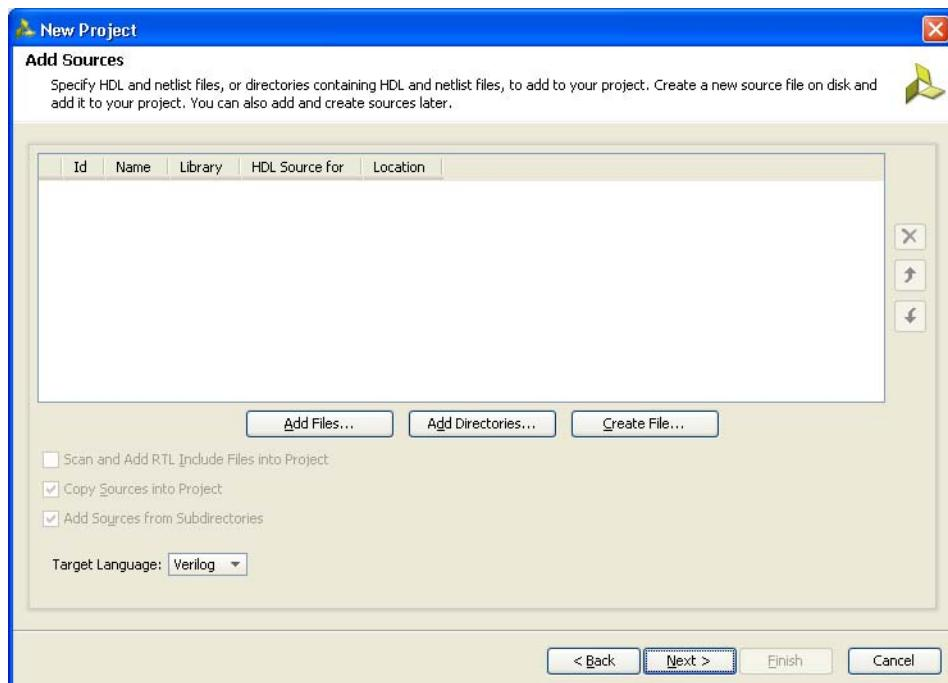

Figure 1-5: Add Sources
5. Click **Next** to proceed to the **Add Sources** page (Figure 1-5). RTL files can be added to the project in this page. If the project was not created earlier, proceed to the next page.